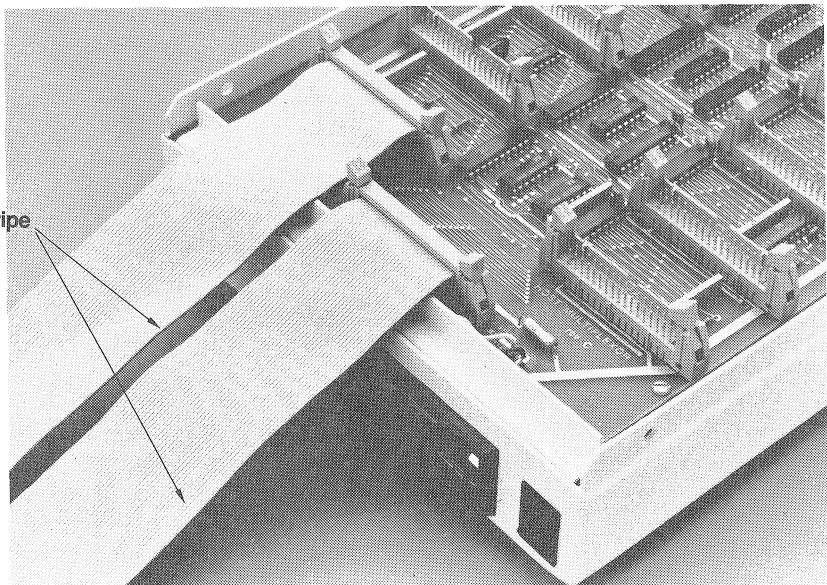

FIGURE 2.15 CORVUS MULTIPLEXER
For stand-alone Mirrors, the small end of the Remote Option cable attaches to the Mirror p.c. board. Off to the side of the drive and processor connectors on the Mirror board is a smaller connector. The Remote Option cable connects to this connector (see figure 2.15) so that the cable leads up and away from the Mirror p.c.-board. When closing the Mirror box, the cable may then be fed through one of the same openings as the other two larger cables.
3. After disconnecting the flat cable from the interface card, attach the free end of this cable to the Multiplexer's disk connector (see figure 2.15), which is the single connector closest to the back end of the Multiplexer board.